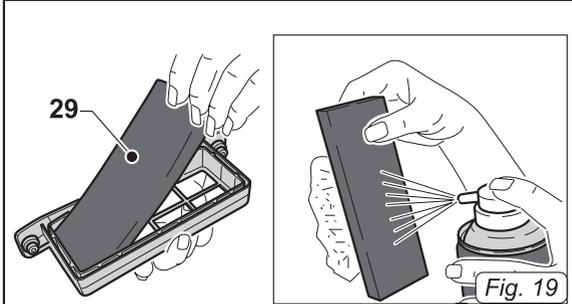

Fig. 19
- Remove the filter sponge (29 Fig. 19) from the frame and clean it with a blast of air. The filter sponge can be washed in warm water and must only be replaced once it is completely dry. If it is too dirty, replace it.